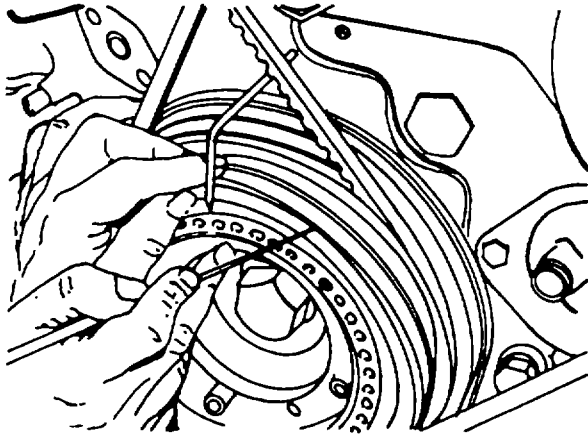

Figure 4-37. Measuring and Marking Halfway Points
2. Mount the pointer to the front of the engine. Mark the pulley and use a straight edge to mark the pulley at 1800 from the pointer (figure 4-37).